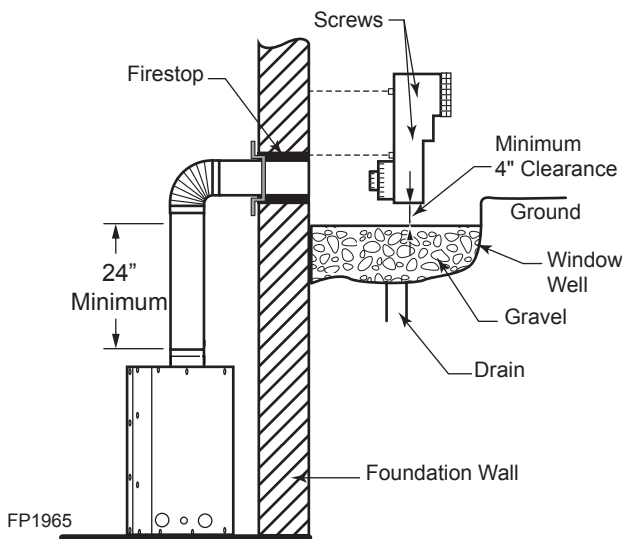

Figure 25 -
2. Remove soil to a depth of approximately 16" (406 mm) below base of snorkel. Install drain pipe. Install window well (not supplied). Refill hole with 12" (305 mm) of coarse gravel leaving a clearance of approximately 4" below snorkel. *Figure 25*
7. Level the soil so as to maintain a 4" clearance below snorkel. *Figure 25*